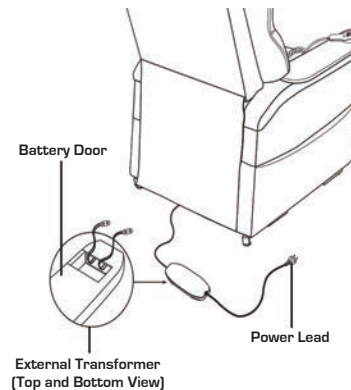

Figure 4.2 Lift Chair Battery Backup Location
3. Install two 9V Lithium-Ion batteries into the external transformer (Fig. 4.2)